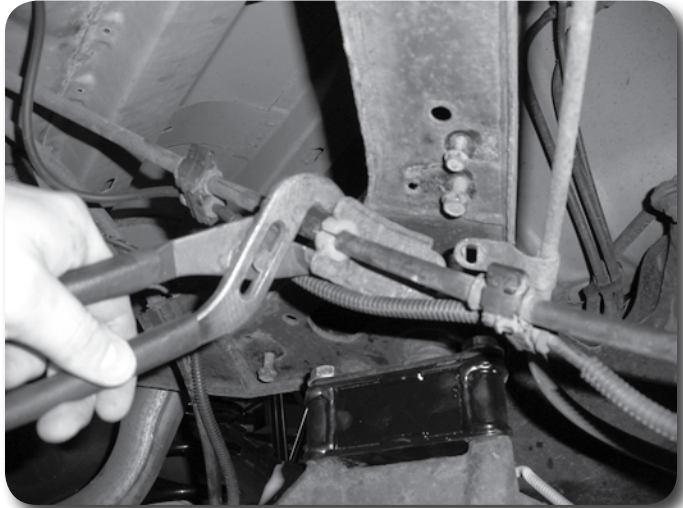

Figure 12A
5. Using a large pair of pliers, squeeze the plastic insert in the parking brake cable brackets and remove the bracket from the cable. **Figure 12A, 12B** Remove the plastic "C" from the cable.